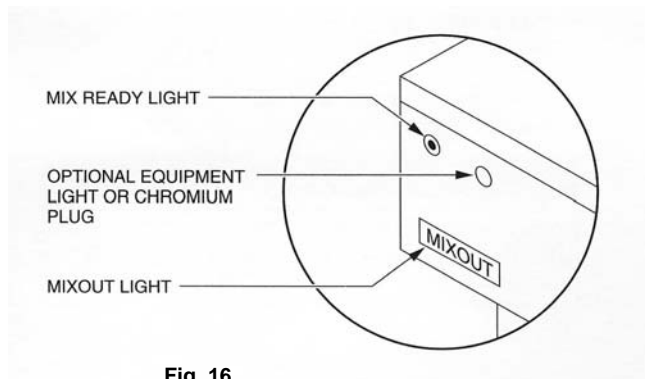

Fig. 16
4. When the mix pan probes are satisfied, the "MIX OUT" light goes off (Fig. 16).